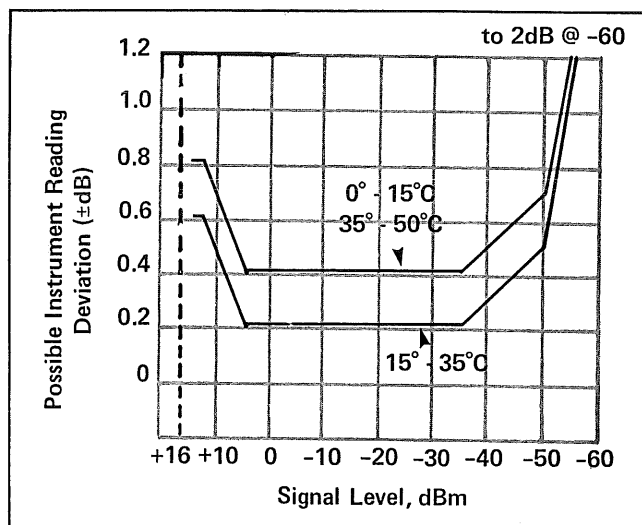
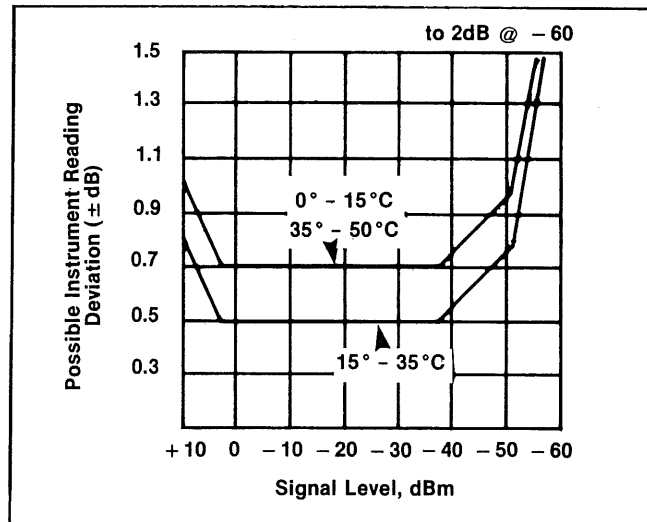

Figure 1-1 N10 Measurement Accuracy with Coaxial Detectors to 26.5 GHz
Figure 1-2 N10 Measurement Accuracy with Waveguide Detector from 26.5 to 40 GHz.
| Fig. 1-1        | N10 Measurement Accuracy withCoaxial Detectors to 26.5 GHz . . . . .                   | 1-1         | Fig. 8-1         | Photo - Horizontal Finger PCBAssembly (A14) . . . . .            | 8-2  |
| Fig. 1-2        | N10 Measurement Accuracy withWaveguide Detectors from 26.5to 40 GHz . . . . .      | 1-1         | Fig. 8-2         | Photo - A Channel Finger PCBAssembly (A15) . . . . .             | 8-3  |
See Figures 1-1 and 1-2 for instrument uncertainty at other input levels and temperatures. Smoothing is available through the keypad for levels below -30 dBm.
*Balanced* — Balanced detectors provide 76 dB dynamic range, attenuate even order harmonics, have low thermal drift, and are temperature compensated. Low level dc signals at the detector input are zeroed out automatically due to the differential output. See Figure 1-1 for linearity from 30MHz to 26.5GHz, Table 1-B for flatness (maximum total variation), and Table 1-C for return loss specifications.
*Single Diode* — The single diode coaxial detector provides 70 dB of dynamic range and is temperature compensated. See Figure 1-1 for linearity from 30MHz to 26.5GHz, Table 1-B for flatness (maximum total variation), and Table 1-C for return loss specifications.
ity resistor when used with the N10 or NS20 systems. See Figure 1-2 for linearity from 26.5 to 40.0GHz, Table 1-B for flatness (maximum total variation), and Table 1-C for return loss specifications.
Connect the attenuator between the detector and the source. Starting with 0 attenuation, step the attenuator in 10 dB steps, and check the resultant power meter readings against the linearity curves (Figures 1-1 and 1-2) shown on the preceding pages. Use Figure 1-1 if checking coaxial detectors, or Figure 1-2 if checking waveguide detectors.